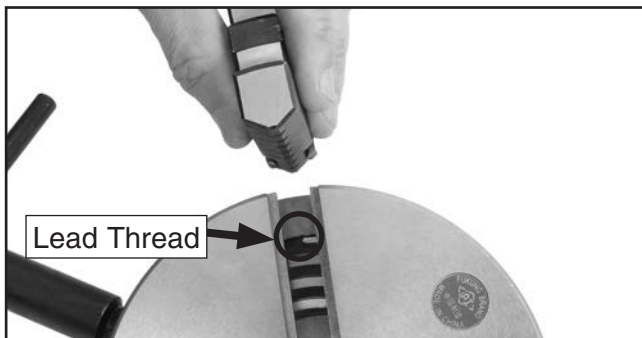

Figure 28. Lead thread on scroll gear.
6. Rotate the chuck key clockwise until you see the tip of the scroll-gear lead thread just begin to enter a jaw guide (see **Figure 28**).